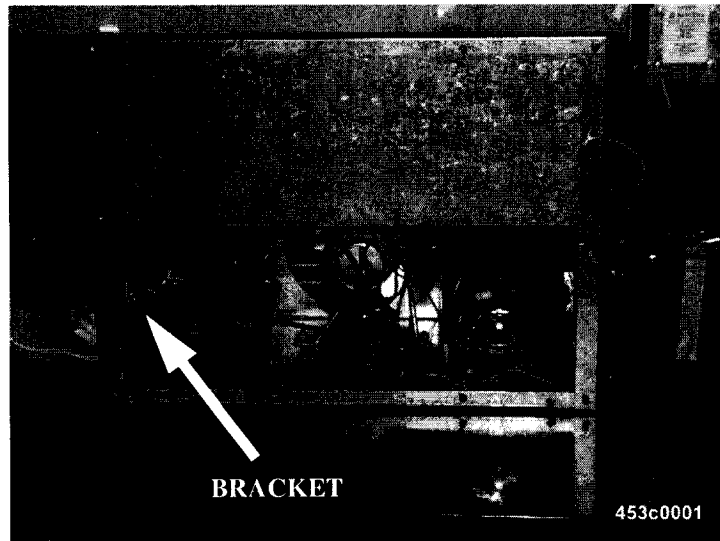

Figure 2
3. Remove the condensate pan brackets (4534063) holding the condensate pan and set aside (see figure 2).
8. Reinstall the condensate pan brackets that was removed in step 3 (see figure 2).